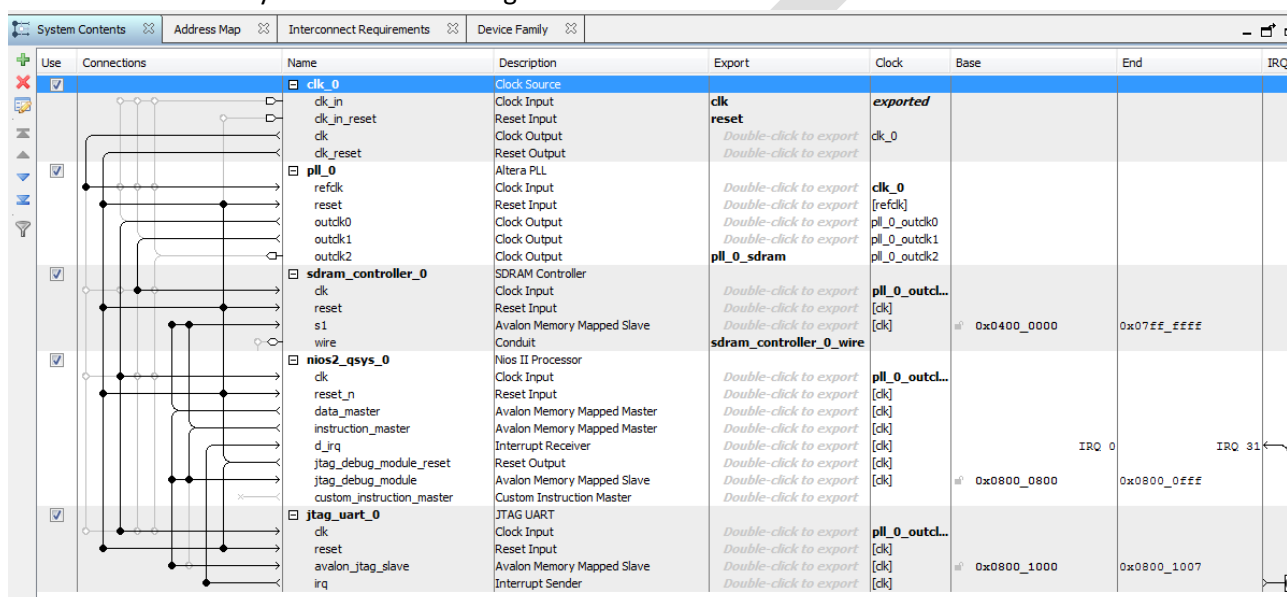

Figure 8-2. Basic Nios II System with SDRAM and JTAG UART
9. Connect the system as shown in Figure 8-2 below: